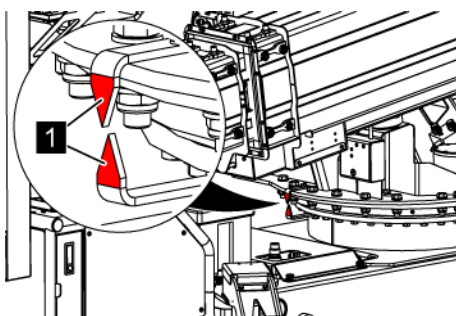

Fig. 169: Rotation indicator
10. ➔ Swivel the platform in the direction of the transport position so that both arrows (Fig. 169/1) on the rotation indicator are aligned with each other.